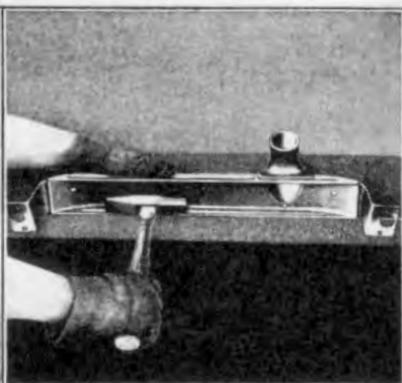

Fig. 407
- 817 In replacing the lower tank, care should be taken that it fits the header as closely as possible. Stand the radiator bottom side up on bench hangers, flare the edges on the header out a little and spread the tank to fit. Examine edges of tank to make sure they are perfectly even. Any indentations can be removed by tapping the edges with the flat side of a hammer (See Fig. 407). Clean